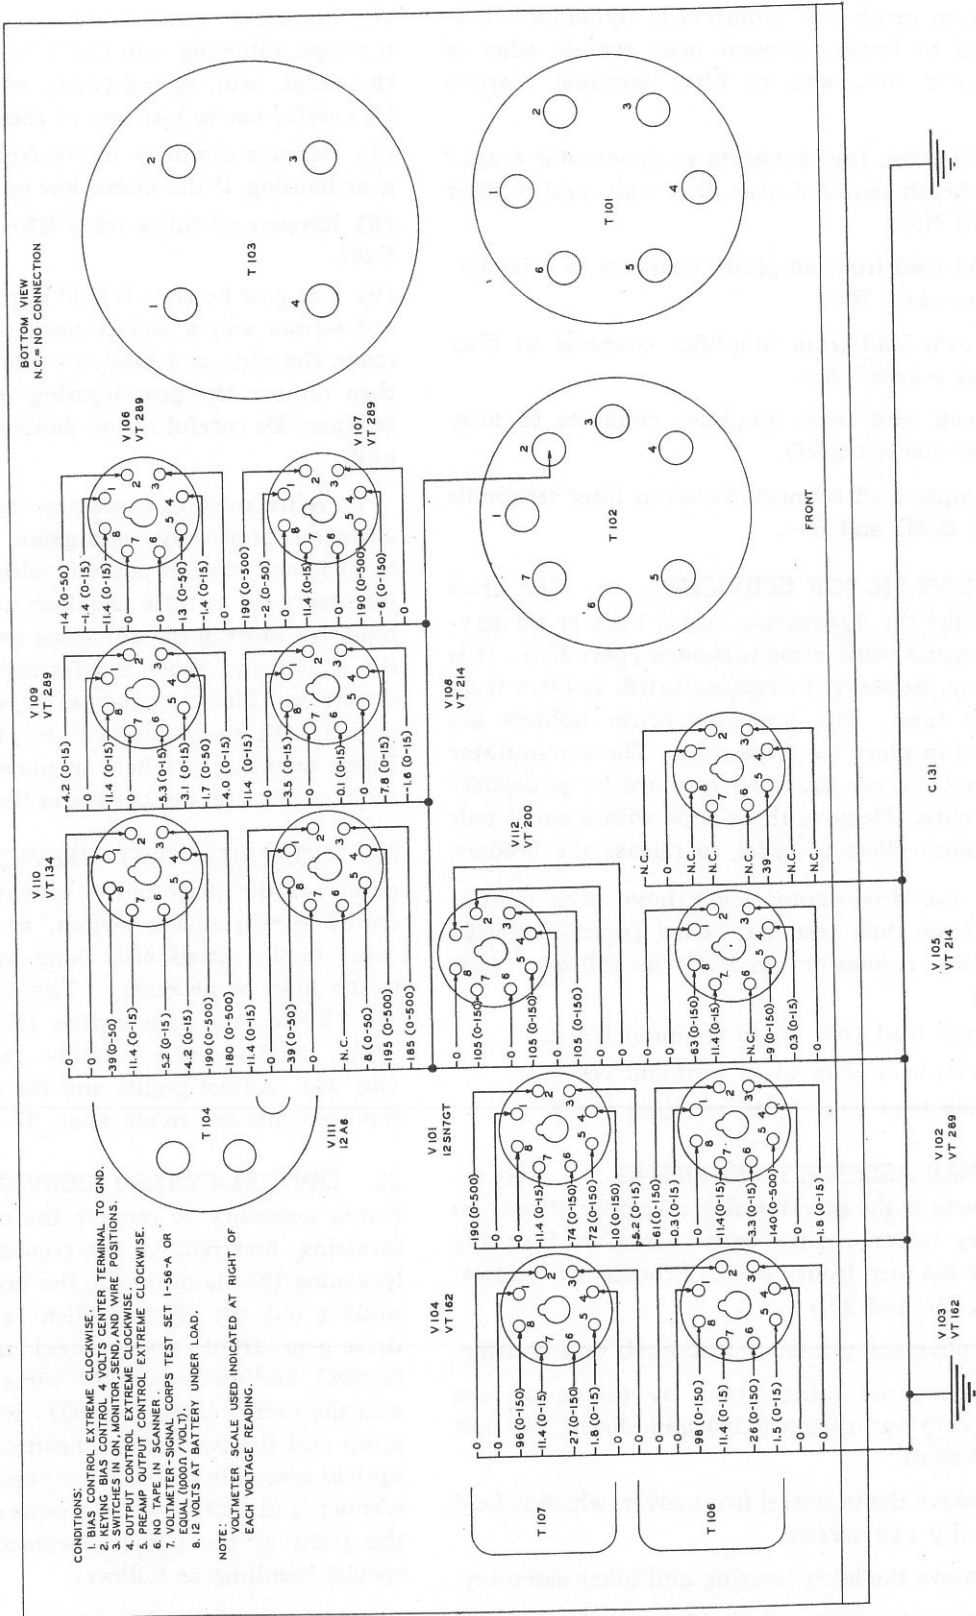

Figure 31—Amplifier tube-voltage chart (BIAS control extreme clockwise)
h. Vacuum tubes. Check vacuum tubes after every 500 hours of use. To accomplish this, remove both the amplifier and the recorder-scanner from their cases, and turn the units upside down on a flat surface. Also remove the dynamotor from the amplifier to allow access to tube sockets. Check tube voltages with a standard test voltmeter (1,000 ohms per volt) (fig. 31, 32, and 33). Be sure switches and controls are at the positions indicated on the three voltage charts. Values within 10 per cent of those on the charts are satisfactory. If voltages for any tube appear to be wrong, replace the